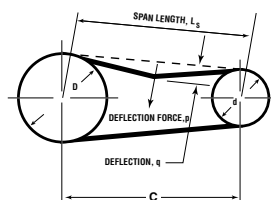

Fig. 2
2. Set the small "O" ring at zero and press down the Carlisle Tensiometer at the center of the belt span (See Fig. 2).